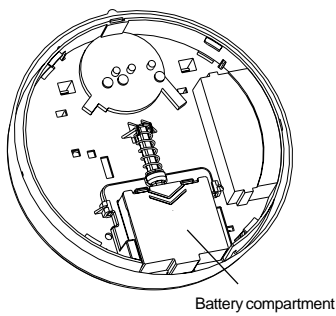

Figure 3 - Battery Compartment
2. Slide the battery cover away from the detector to unsnap it and lift it off. See Figure 3.
2. Slide the battery compartment cover away from the detector to unsnap it and lift it off. See Figure 3.